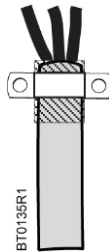

Figure 4.
3. Connect motor cable **M** (see Figure 4). Tighten the screws according to the tightening torques in Table 1. Check the tightening of the factory-installed main switch cable.